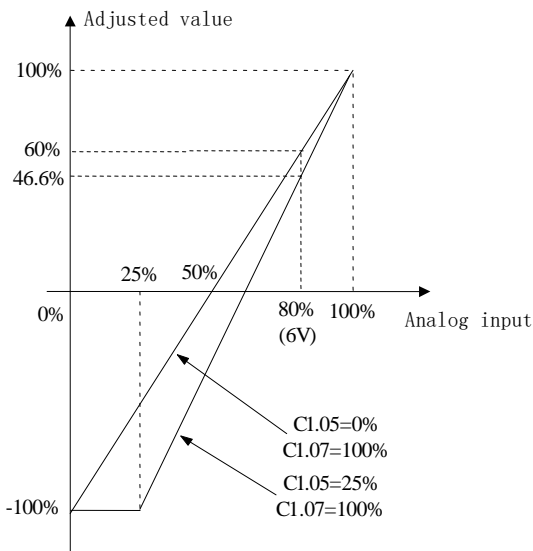

Fig.6-42 Regulation curve of reference
The regulation relationship between C1.05,C1.07 and reference is shown in Fig.6-42.When the analog input 6V,if C1.05=0% and C1.07=100%, then adjusted value is 60%.If C1.05=25% and C1.07=100%, then the adjusted value is 46.6%.
1. Fig.6-42,0%~100% in X axis is corresponding to analog input -10V~10V,10V of analog input is